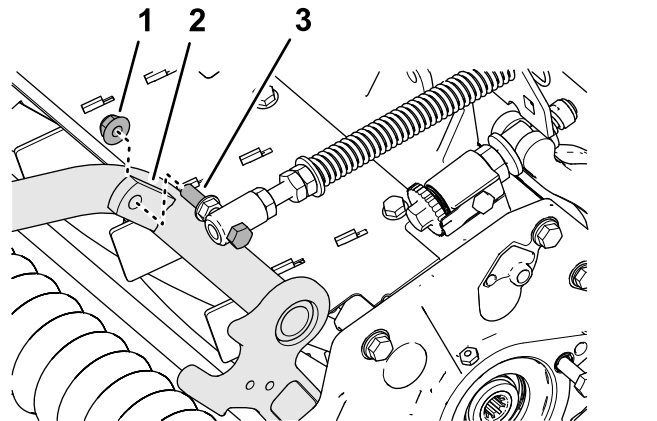

**Figure 19**
3. Remove the flange locknut (3/8 inch) that secures the capscrew of the turf compensation spring to the right tab of the carrier frame, and remove the compensation spring from the cutting unit (Figure 19).